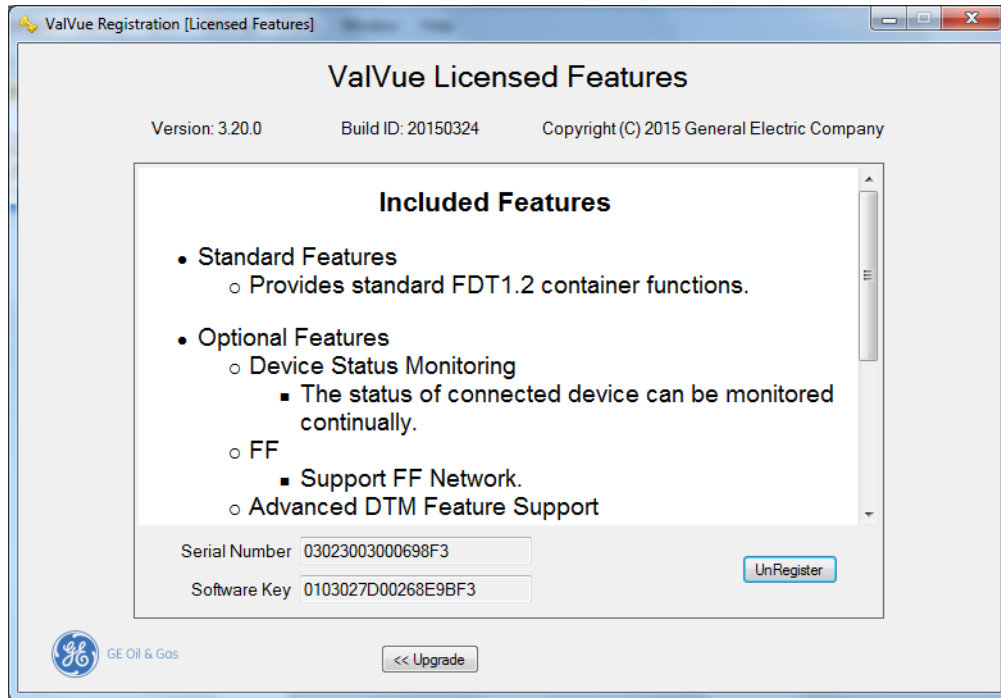

Figure 7 Included Features
2. Click  and Figure 7 appears.